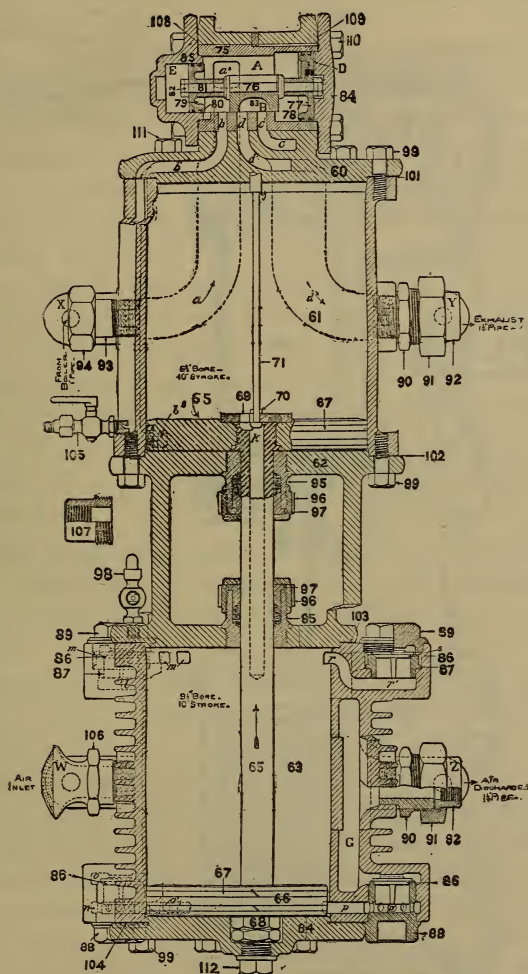

Fig. 280. Nine and One-Half-Inch Air Pump.
A. Referring to Figs. 280 and 281: the valve motion consists of two pistons, 77, 79, of unequal diameter, on common rod, 76, and having between them a D valve 83, to distribute steam to the upper or to the lower side of the main steam piston 65, as required. Steam enters the pump at *X* (where a stud and nut admit of direct attachment of the pump governor) and by passages *a* and *a*¹ and port *a*² is admitted to the slide-valve chamber between the two pistons 77 and 79. As the piston 77 is larger than 79, the action is to force the two to the right as shown in Fig. 280, thus letting steam under the main piston 65 through the port *b* to the passages *b*¹ and *b*², forcing the main piston upward. The steam that has forced the main piston downwards is exhausted to the atmosphere through the passage *c*, port *c*¹, and cavity *B* to the slide valve 83, port *d* and passages *d*¹ and *d*² at the connection *Y*, whence it is taken by a suitable pipe to the smoke box.
A. This is shown in Fig. 281, port t communicating between the chamber E in the main-valve head 85 and exhaust passage f^1 , and hence being in constant connection with the atmosphere, taking the pressure off that surface of the main-valve piston 79, which is exposed to the chamber E . The reversing valve 72 works in the chamber C in the center of the steam-cylinder head, taking steam from the slide-valve chamber A through the ports e and e^1 ; this valve being moved by a rod 71 extending into the space k of the hollow piston rod. This valve is to admit steam to and exhaust it from the space D between the main-valve piston 77 and the head 84. It is shown in Fig. 280 in position to exhaust the steam before used, from the space D through the port h (Figs. 280 and 281), port h^1 , reversing valve cavity H , and ports f and f^1 , to the main exhaust ports d , d^1 , and d^2 .
A. Air from outside is drawn into first one end and then the other of the air cylinder 63, through the screened inlet 106 at *W*, chamber *F*, and the receiving valves 86 to the left (Fig. 280), and thence discharged under pressure through the discharge valves 86 to the right (Fig. 280), to the chamber *G* and the main reservoir to which the pump should be connected by a $1\frac{1}{4}$ -inch pipe at *Z*.